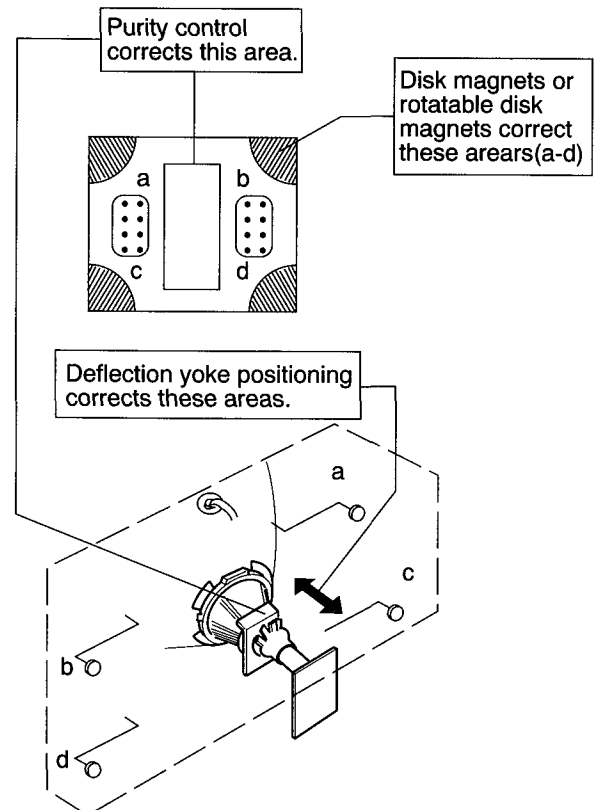

Fig. 4
8. When landing at the corner is not right, adjust by using the disk magnets (Fig.4)